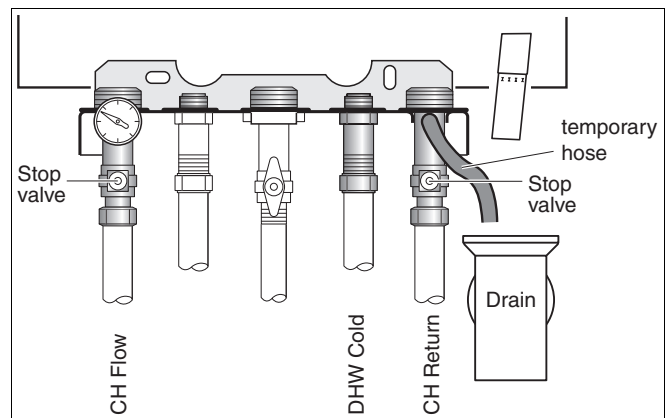

fig. 34 Draining the system
- Connect temporary hose (fig. 34).